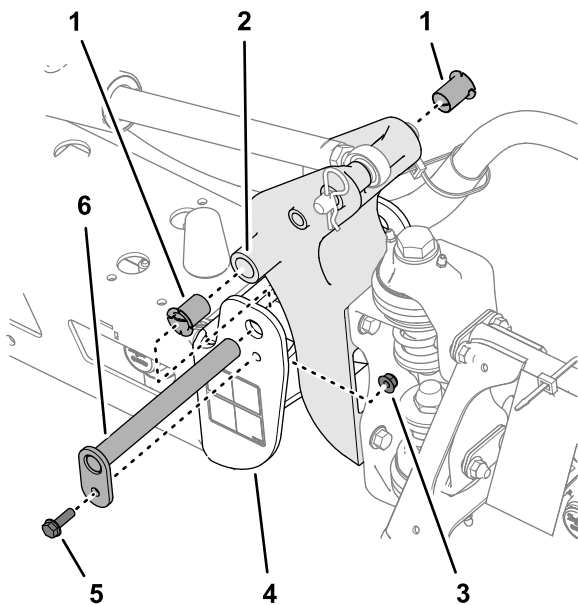

Figure 108
3. Remove the bolt and nut that secure the pivot pin, and remove the pin (Figure 108).
- Remove and inspect the nylon bushings from the front and back sides of the pivot bracket (Figure 108).
- Lubricate the nylon bushings with a small amount of oil and install the bushings into pivot bracket (Figure 108).
- Align the holes in the pivot bracket with the holes in the end channel (Figure 108).